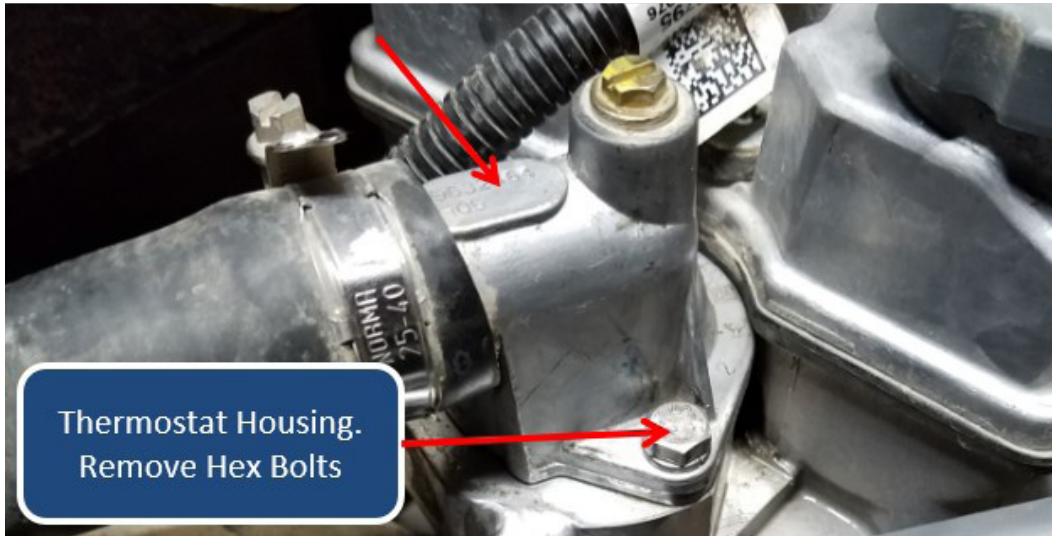

FIGURE 19
44. Place a collection pan for coolant under the vehicles thermostat. Remove the two hex bolts that secure the thermostat as shown in **FIGURE 19** and allow